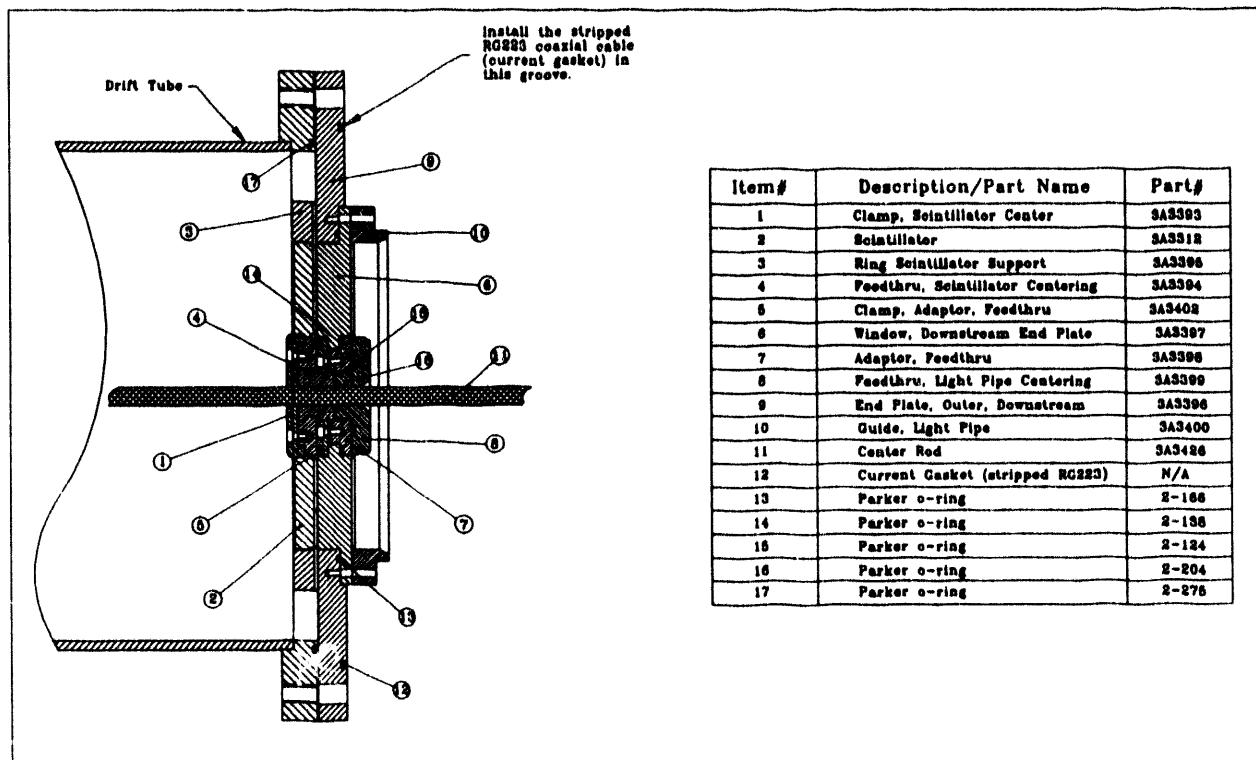
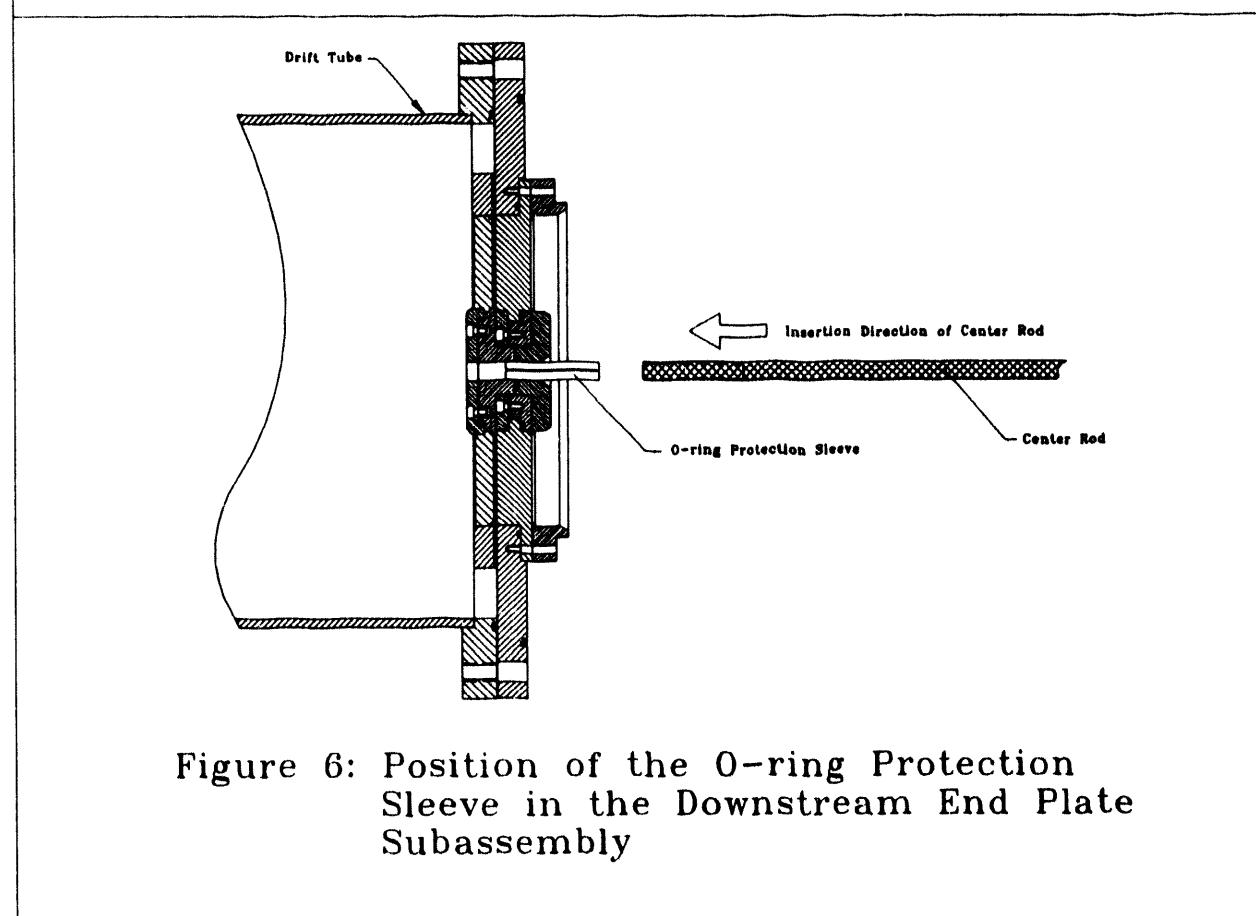

Figure 5: Downstream Vacuum Interface Subassembly
Figure 6: Position of the O-ring Protection Sleeve in the Downstream End Plate Subassembly
27. Secure the High-Voltage Connection Plate to the support rods using eight (8) each 1/2-13 G10 fiberglass nuts. Tighten nuts until snug. (*note- Do not overtighten the G10 nuts as stripping of the threads may result.*)
31. Align the eight (8) thru holes on the Ø7.50" BC on the Downstream End Plate Window with the eight (8) threaded holes on the Ø7.50" BC on the Downstream Outer End Plate.
33. Align the eight (8) thru holes on the Ø7.50" BC on the flange of the Light Pipe Guide with the eight (8) thru holes on the Downstream End Plate Window.
34. Secure the Light Pipe Guide and the Downstream End Plate Window to the Downstream Outer End Plate using eight (8) each 6-32 x 1" steel socket head screws and eight (8) each  $\varnothing 7/16$ " o.d. #6 screw steel flat washers. Tighten the screws using a standard eight-hole flange tightening pattern until all screws are snug.
36. Lay the Scintillator Support Ring, slotted-side down, on the Downstream Outer End Plate, refer to figure 5.
37. Align the eight (8) thru holes on the  $\varnothing 7.75$ " BC on the Scintillator Support Ring with the eight (8) threaded holes on the  $\varnothing 7.75$ " BC on the Downstream Outer End Plate.
38. Attach the Scintillator Support Ring to the Downstream Outer End Plate using eight (8) each 6-32 x 3/4" steel socket head screws and eight (8) each  $\varnothing 7/16$ " o.d. #6 screw steel flat washers. **Just start the screws in the threaded holes at this time!**
42. Insert the Feedthru Adaptor Clamp into the center of the Downstream End Plate Window from the Scintillator Support Ring side of the Downstream Outer End Plate Assembly with the surface with the four (4) counterbored holes facing away from the Downstream End Plate Window, refer to figure 5.
44. Align the four (4) counterbored holes on the  $\varnothing 1.70$ " BC on the Feedthru Adaptor Clamp with the four (4) threaded holes on the  $\varnothing 1.70$ " BC on the Feedthru Adaptor.
45. Secure the Feedthru Adaptor Clamp to the Feedthru Adaptor using four (4) each 6-32 x 1/4" steel socket head screws. Tighten the screws using a standard four-hole flange tightening pattern until all screws are snug. *(note- Make certain the Feedthru Assembly will not rotate in the center of the Downstream Vacuum Window Endplate after the screws have been tightened.)*
49. Install the Light Pipe Centering Feedthru in the center of the Downstream Outer End Plate Assembly with the surfaces containing the o-rings facing the assembly, refer to figure 5.
50. Align the four (4) counterbored holes on the  $\varnothing 1.80$ " BC on the Light Pipe Centering Feedthru with the four (4) threaded holes on the  $\varnothing 1.80$ " BC on the Feedthru Adaptor.
51. Attach the Light Pipe Centering Feedthru to the Feedthru Adaptor using four (4) each 6-32 x 5/16" steel socket head screws. **Just start the screws in the threaded holes at this time!**
53. Install the Scintillator Centering Feedthru in the center of the Downstream Outer End Plate Assembly with the surface containing the counterbored holes facing away from the assembly, refer to figure 5.
54. Align the four (4) counterbored holes on the  $\varnothing 1.70$ " BC on the Scintillator Centering Feedthru with the four (4) threaded holes on the  $\varnothing 1.70$ " BC on the Feedthru Adaptor Clamp.
55. Attach the Scintillator Centering Feedthru to the Feedthru Adaptor Clamp using four (4) each 8-32 x 3/8" steel socket head screws. Just start the screws in the threaded holes at this time!
57. Install the Scintillator in the space between the Scintillator Support Ring and the Scintillator Centering Feedthru, refer to figure 5. (note- Make sure the Scintillator is firmly seated in the Downstream Outer End Plate Assembly.)
58. Tighten the four (4) screws in the Scintillator Centering Feedthru using a standard four-hole flange tightening pattern until all screws are snug.
59. Tighten the eight (8) screws in the Scintillator Support Ring using a standard eight-hole flange tightening pattern until all screws are snug.
60. Position the Scintillator Center Clamp so the surface with the four (4) counterbored holes is parallel to the Scintillator and facing away from the Scintillator Centering Feedthru.
61. Install the Scintillator Center Clamp on the Scintillator Centering Feedthru, refer to figure 5.
62. Align the four (4) counterbored holes on the Ø1.70" BC on the Scintillator Center Clamp with the four (4) threaded holes on the Ø1.70" BC on the Scintillator Centering Feedthru.
63. Attach the Scintillator Center Clamp to the Scintillator Centering Feedthru using four (4) each 6-32 x 7/16" steel socket head screws. Tighten the screws using a standard four-hole flange tightening pattern until all screws are snug.
64. Install the Downstream Outer End Plate Assembly on the One-piece Drift Tube's downstream vacuum to air interface flange with the scintillator side facing the drift tube, refer to figure 5.
65. Align the eight (8) thru holes on the Ø12.625" BC on the Downstream Outer End Plate Assembly with the eight (8) threaded holes on the Ø12.625" BC on the downstream vacuum to air interface flange.
66. Attach the Downstream Outer End Plate Assembly to the downstream vacuum to air interface flange using eight (8) each 3/8"-16 x 1-3/8" steel socket head screws. Tighten the screws using a standard eight-hole flange tightening pattern until all screws are snug.
69. Install the stripped RG-223 cable in the Ø11.23" i.d. groove on the Downstream Outer End Plate, refer to figure 5.
73. Secure the Current Return Tube to the Downstream Outer End Plate using eight (8) each 1/4-20 x 3/4" steel socket head screws. Tighten the screws using a standard eight-hole flange tightening pattern until all screws are snug.
74. Insert the O-Ring Protection Sleeve, dwg# 3AXXXX into the i.d. of the Light Pipe Centering Feedthru. Compress the sleeve so that it slides just past the o-ring sandwiched between the Light Pipe Centering Feedthru and the Scintillator Centering Feedthru, refer to figure 6.
81. Rotate the Current Return Plate so that the eight (8) 1/4-20 threaded holes on the Ø13.00" BC are aligned with the thru holes on the Current Return Tube and one of the spokes on the Current Return Plate is positioned 90° with respect to the horizon.